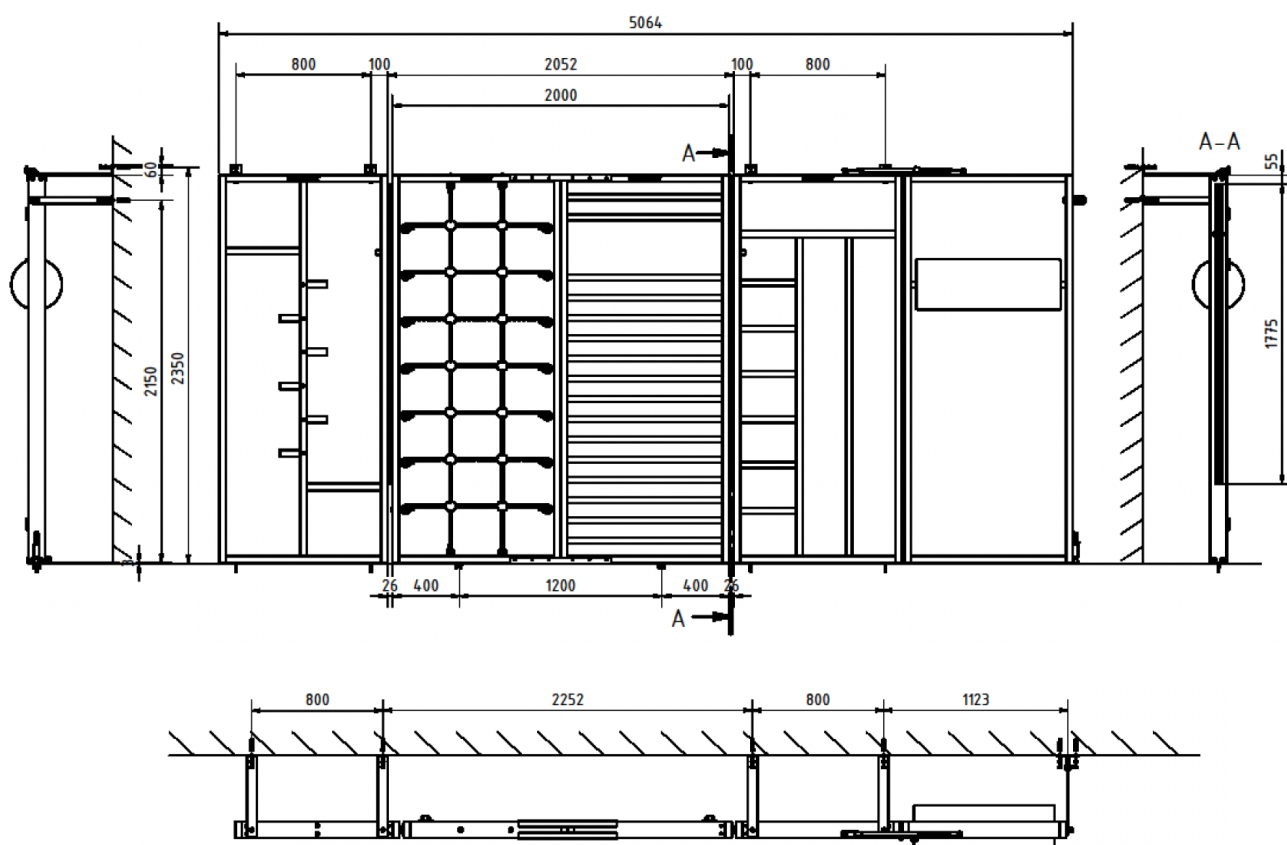

Fig. 4: Drilling dimensions for 'Kombi' gymnastics wall combination
Start by assembling the fixed wall elements. Place the gymnastics wall elements 40 cm in front of the wall, on which they are to be mounted; place two wooden construction washers (4) under each fixed element. Keep the distance specified in Fig. 4 between the individual elements. Check wall and floor for any obstructions such as pipes or wiring. If none are present, use the drilling dimensions from Fig. 4. Should there be any obstructions, the drilling points may be slightly offset. Once suitable positions for the wall brackets are found, mark the drilling points on the outsides of the gymnastics wall elements and on the wall.